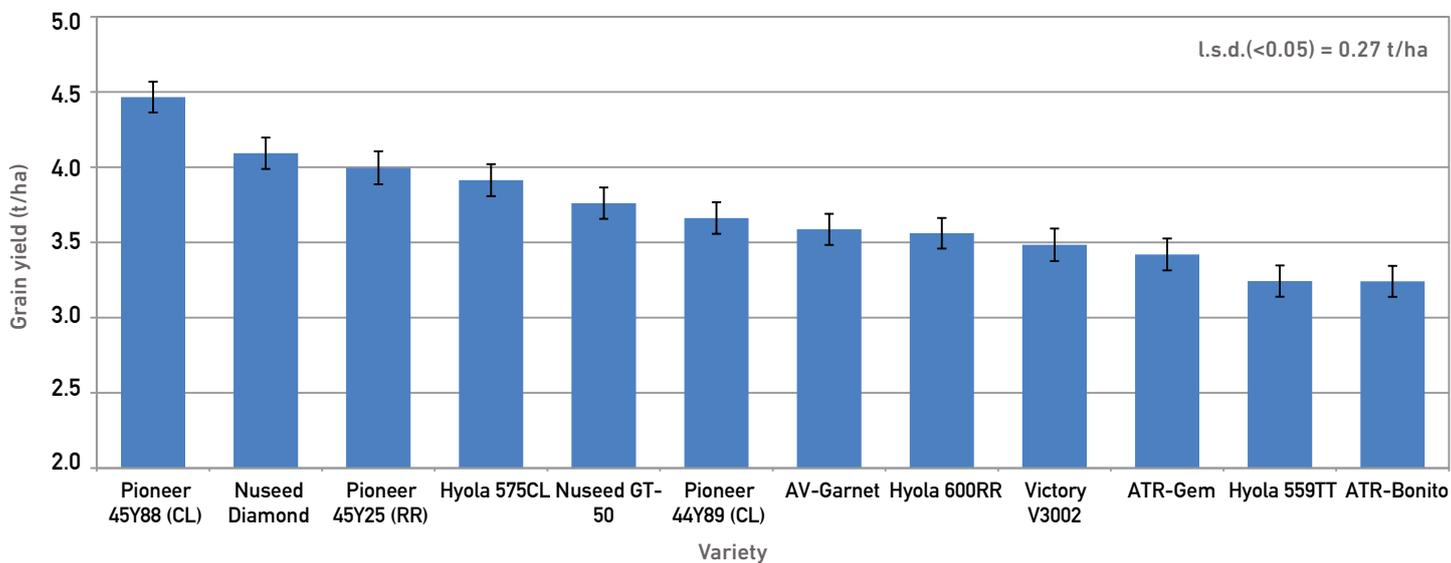

Figure 1. Grain yield of each variety averaged across all nitrogen treatments in the irrigated canola experiment at Leeton in 2016.
Grain yield averaged 3.70 t/ha across all treatments. Pioneer 45Y88 (CL) yielded significantly higher than all other varieties (4.47 t/ha), followed by Nuseed Diamond (4.09 t/ha), which was statistically similar to Pioneer 45Y25 (RR) and Hyola 577CL. ATR-Bonito was the lowest yielding variety (3.24 t/ha) but was statistically similar to Hyola 559TT, ATR-Gem and Victory V3002 (Figure 1).